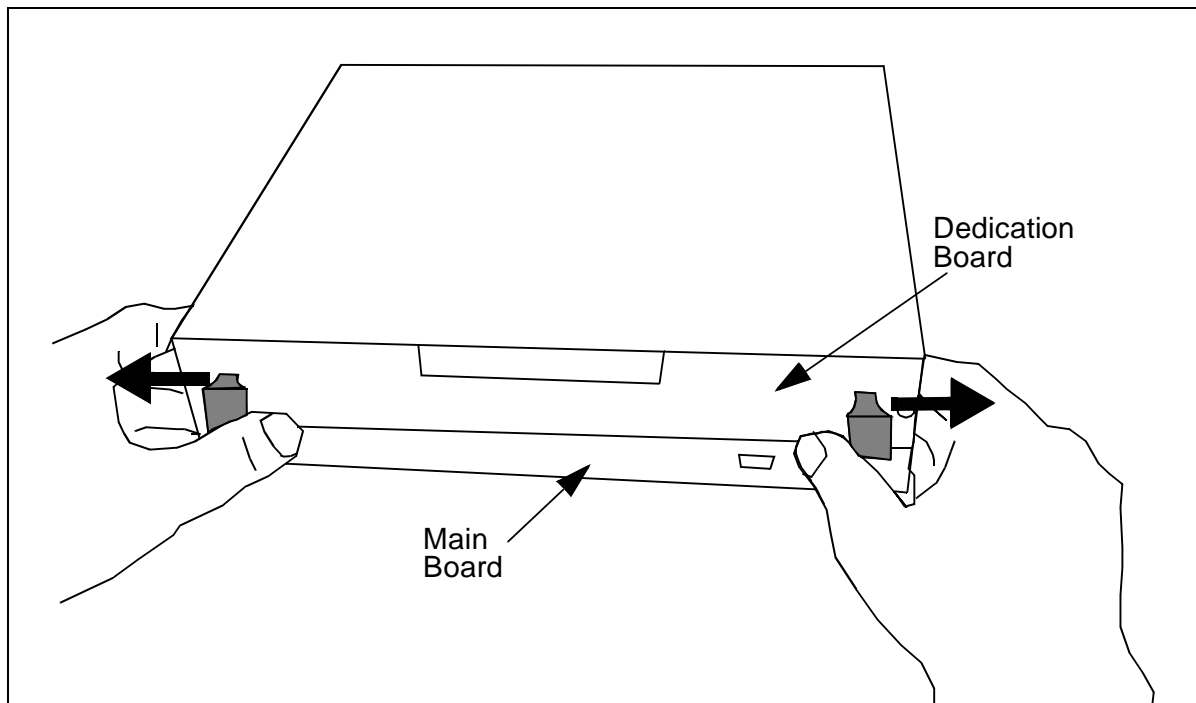

Figure 5: Using the extractor handles to loosen the dedication board
- b Extract the board by placing your thumbs on the two handles and pressing them firmly outwards to loosen the board (see *Figure 5*).